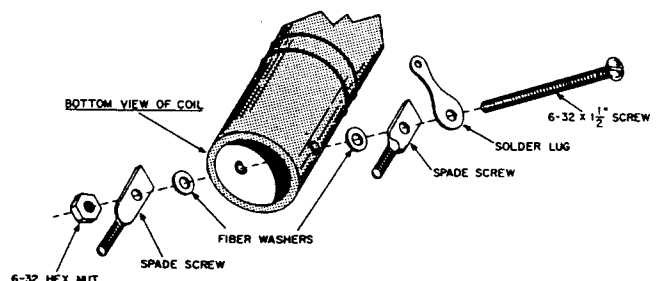

FIGURE 5. MOUNTING L-2 AND L-6
- ☐ Prepare L-6, the 6-terminal coil, for installation by attaching the spade screws as shown in Figure 5. Note that the flat side of the spade screws must be against the coil. On a 6-32x $\frac{1}{2}$ " screw put a solder lug, a spade screw, and a fiber washer. Push the screw through the holes in the coil from the side opposite the terminals. On the threaded end
- ☐ Attach spade screws to L-2 in the same way they were fastened to L-6 (see Figure 5) except that two solder lugs are used, one on each side.